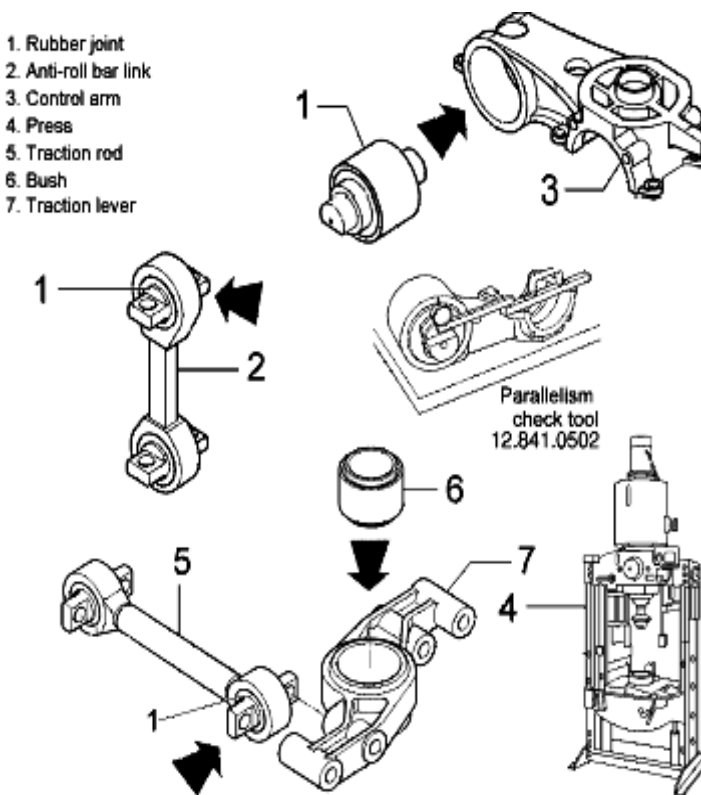

Fig. 4.1 Insertion of Rubber Joints
Clean the control arm (Fig. 4.1) hole and lubricate with AUTOL 2000. Clean the rubber joint. Mount the rubber joint using the press (4). After mounting, check parallelism using the tool No.12.841.0502. **The differential tolerance is $\pm 0,5 \text{ mm}$.** If necessary perform the required correction. Mount the rubber joints (1) into the anti-roll bar vertical rods (2) and on the traction rods (5) using the press (4). Mount the bush also (6) into the traction lever (7)